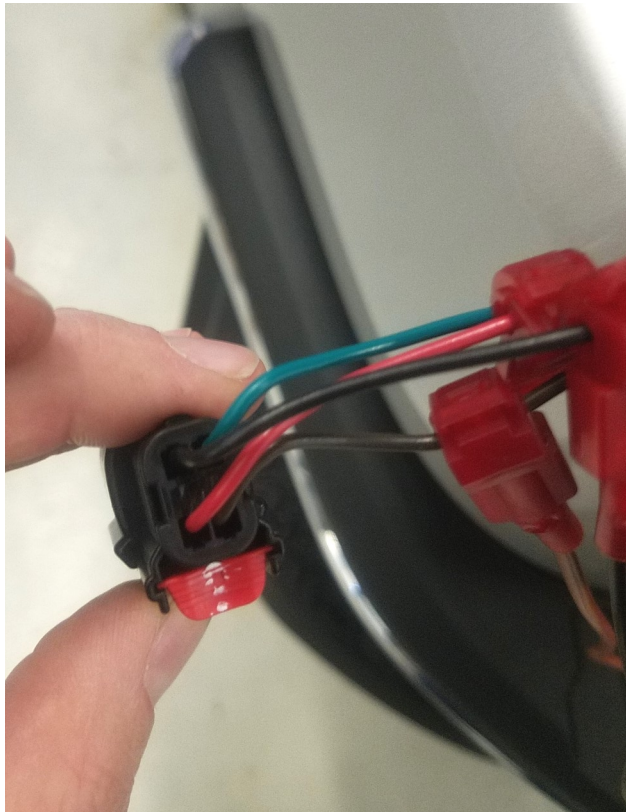

Figure 2: LED tail light plug
1. Install 3M tape on back of light bar. Use promoter packet to prep surface on light bar where tape is going to be applied. Place the four tape strips evenly across the back of light bar. Refer to **Figure 2**